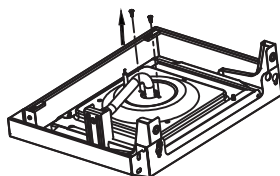

Figure 2
- 2) Remove the trivet and the side burner (Figure 2).